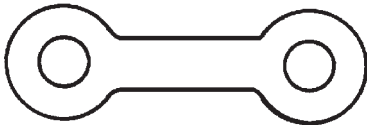

FIGURE 6-2
- b. Remove the fusible link from the terminal detector and install a test link (Part No. 24916). See Figure 6-2.